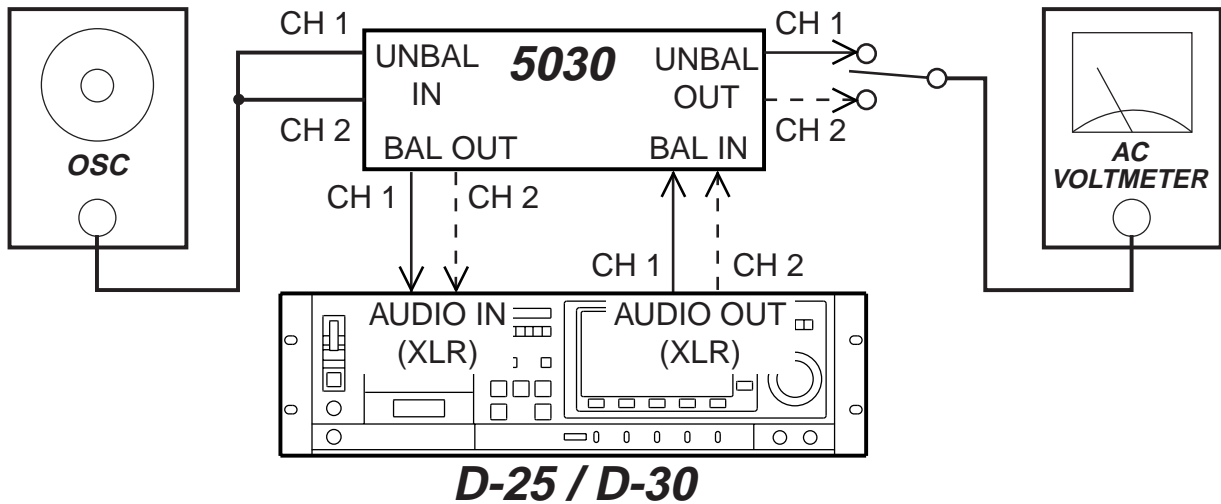

Fig. 2
2. Connect the sine wave oscillator, Model 5030, and AC volt meter with D-25/D-30 as shown in Fig. 2.